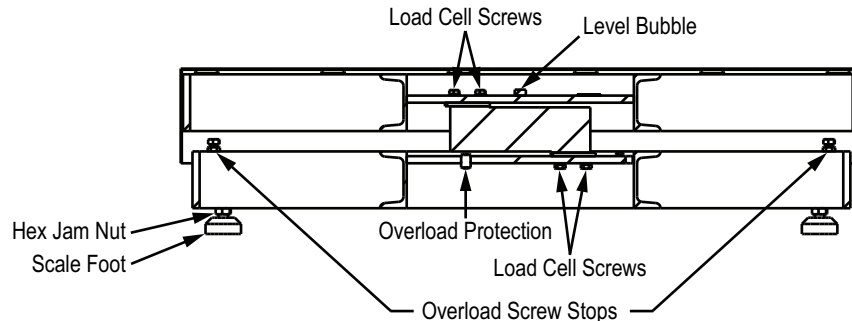

Figure 3-1. Load Cell Mount
2. Lift off the scale top cover and cover support to locate the four upper load cell screws. Use a 1/2" wrench to unscrew and remove those four load cell screws (Figure 3-1).